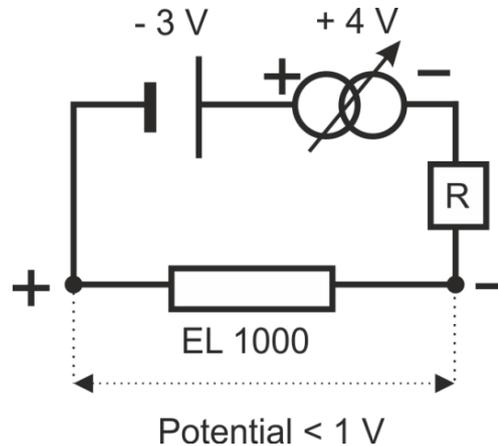

Fig. 02: EL1000 in series connection with a battery (reversed connections) and an external power source.
Fig. 02 shows the same connection as shown in Graph 3(c). Here, EL1000 will read a potential of less than 1 V between its **+** and **-** terminals. Here the potential applied by the external power source should be increased up to an extent that the total potential becomes positive after compensating for the opposing battery potential and the voltage drop (R).